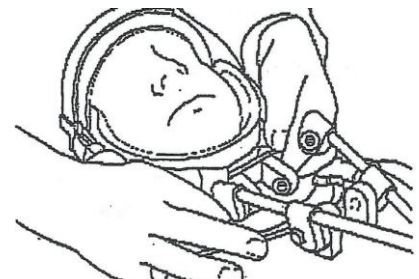

Figure 6: Attaching the facemask assembly to the vest.
8. Remove the bolts from the rotatable serrated connectors attached to the facemask and separate the two parts (FIGURE 6) of the connector. Slide the anterior upright rods into the connectors attached to the vest and reconnect proximal connectors with the bolts. Tighten all four bolts making sure the correct cervical alignment is achieved. Lifting the chin slightly will provide distraction.